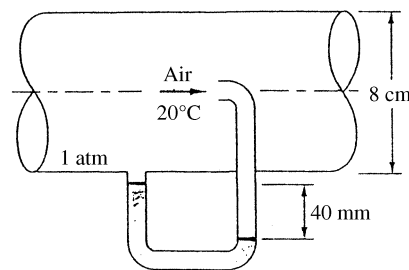

Fig. P6.136
6.136 For the pitot-static pressure arrangement of Fig. P6.136, the manometer fluid is (colored) water at 20°C . Estimate (a) the centerline velocity, (b) the pipe volume flow, and (c) the (smooth) wall shear stress.